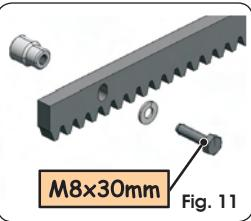

Fig. 11
5.4.1. STEEL RACK TO BE WELDED (FIG. 11)